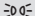

Fig. 89 Dash panel: lights control.
- Turn on the ignition and select the mode **AUTO** in the lights panel >>> **Fig. 89**.
- Disconnect the mode **AUTO** in the lights panel >>> **Fig. 89**.